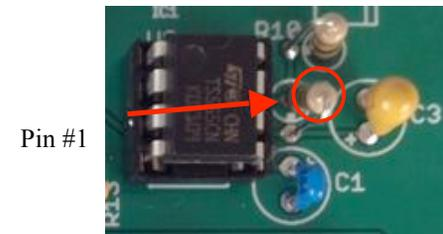

Fig. 5.3: Diagram of 555 showing pin #1 location.
- 5.2.1. First put the socket into the PCB with the notches matching as seen in Figure 5.3. Solder all the terminals.